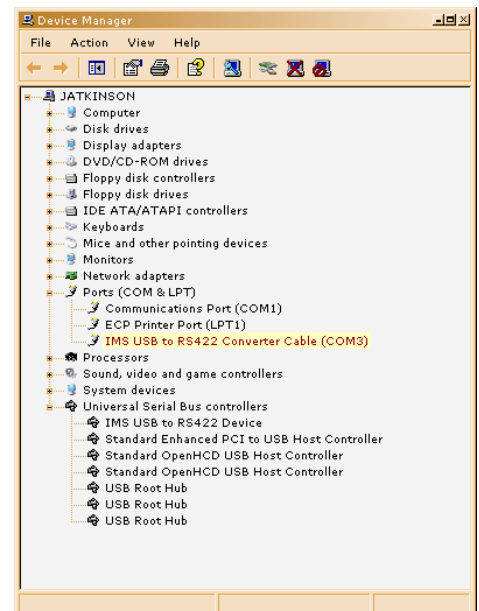

Figure D.13: Windows Device Manager
- 3) Look in the heading “Ports (COM & LPT)” IMS USB to RS422 Converter Cable (COMx) will be listed (Figure D.13). The COM # will be the Virtual COM Port connected. You will enter this number into your IMS Terminal Configuration.